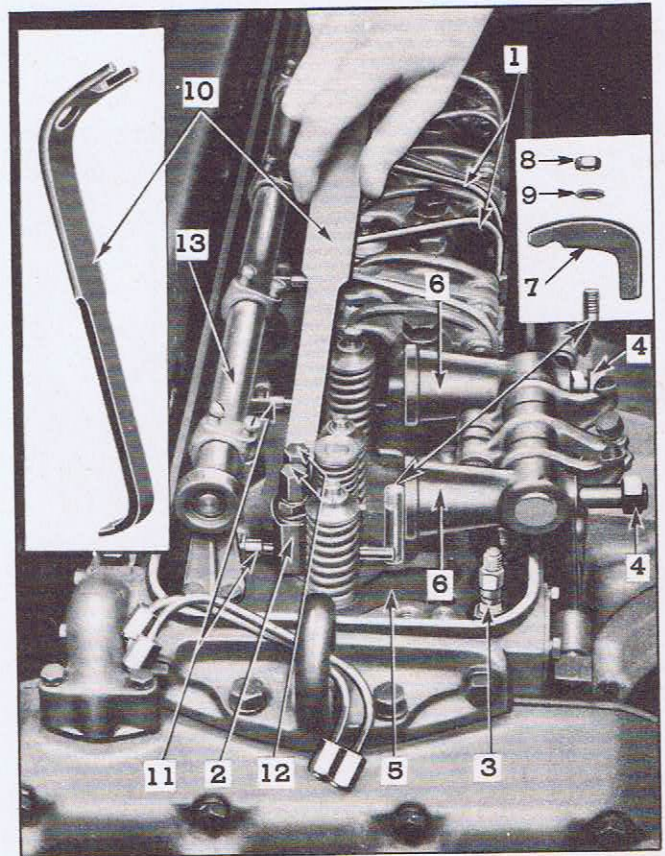

FIG. 7—REMOVING INJECTOR FROM CYLINDER HEAD WITH TOOL J-1227-1.
3. Refer to Fig. 7 and remove fuel lines (1) from both the injector (2) and the fuel connectors (3).
5. Loosen the two rocker arm bracket bolts (4) holding the brackets to the cylinder head (5) and swing the rocker arm assembly over away from valves and injector.
6. Remove injector hold-down stud nut (8), special washer (9) and injector clamp (7).
7. Using Tool J-1227-1, as illustrated in Fig. 7, pry injector from its seat.
Supplied with an injector that has been tested and is known to be in first-class condition, refer to Fig. 7 and proceed to install it as outlined below.